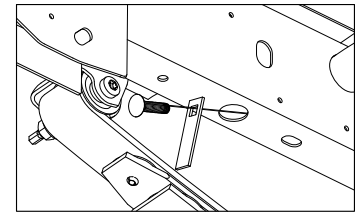

FIGURE C4: View looking up at rear of driver side frame
- 2. Fish carriage bolts through frame.** A fish wire will be required to install the 1/2" X 2" Carriage bolts which hold each sideplate in place. Start by locating the mounting hole in the side of the frame, shown below in figure C2. Feed the coiled end of the fish wire through the hole until it is visible in the 1-1/2" hole near the back of the frame as shown in figure C4. Attach a locking strap and the 1/2" X 2" carriage bolt to the fish wire as shown in figures C3 & C4. The locking strap should not be inserted into the bolt while passing through the frame. Once attached, carefully pull the fish wire back through the frame. Pull the carriage bolt out of the hole in the frame, ensure that the carriage bolt has been pulled all the way through the locking strap and the bolts rotation is restricted.